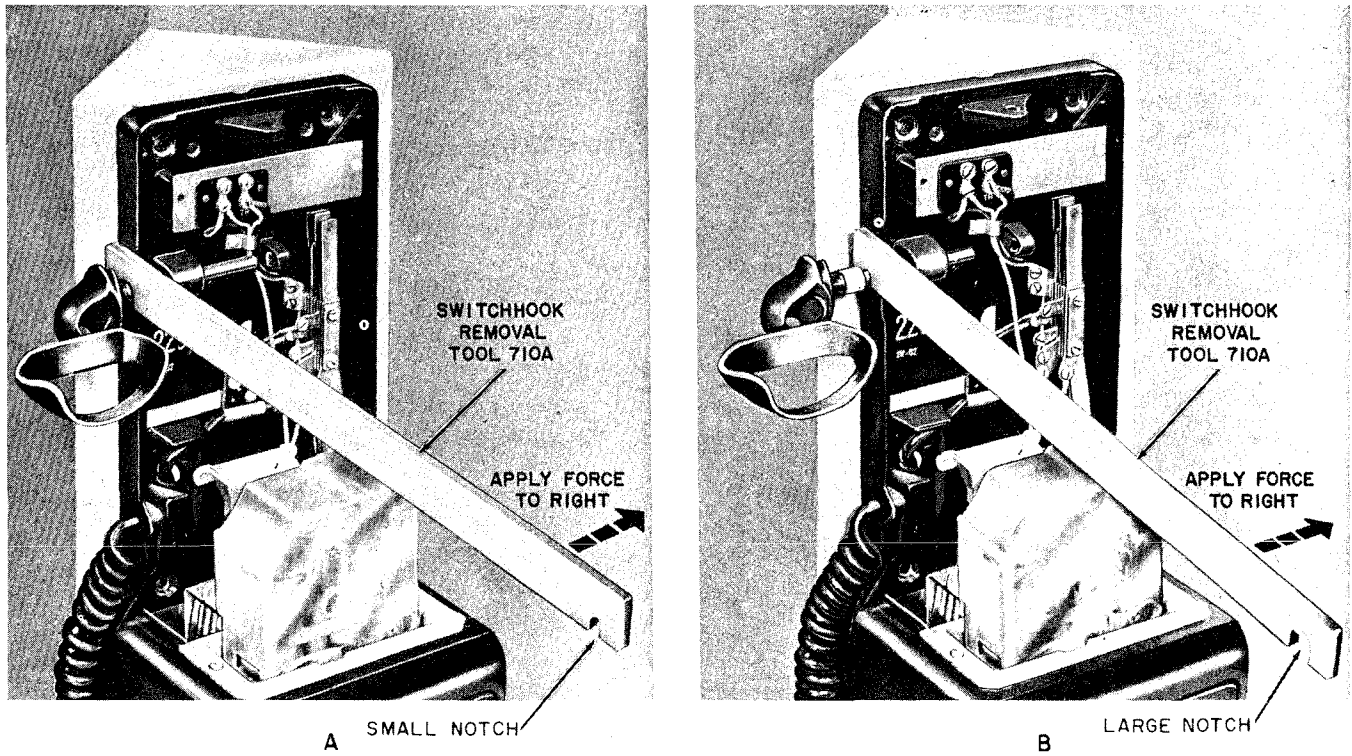

Fig. 34—Removal of 1-Piece Switch Hook Located in Corner
- (1) Perform operations outlined in 3.44 (1).
- (2) Place the larger notch of a 710A bending tool on the switch hook hub as shown in Fig. 34, View A. Apply force on the tool as shown and move the switch hook out, bending it slightly.
- (3) Having partially bent the shaft, move the switch hook to the left. Place the smaller notch of the bending tool over the shaft as shown in Fig. 34, View B. Apply force on the tool as shown.
- (4) Continue moving the switch hook to the left and applying additional bends as needed to remove the switch hook.